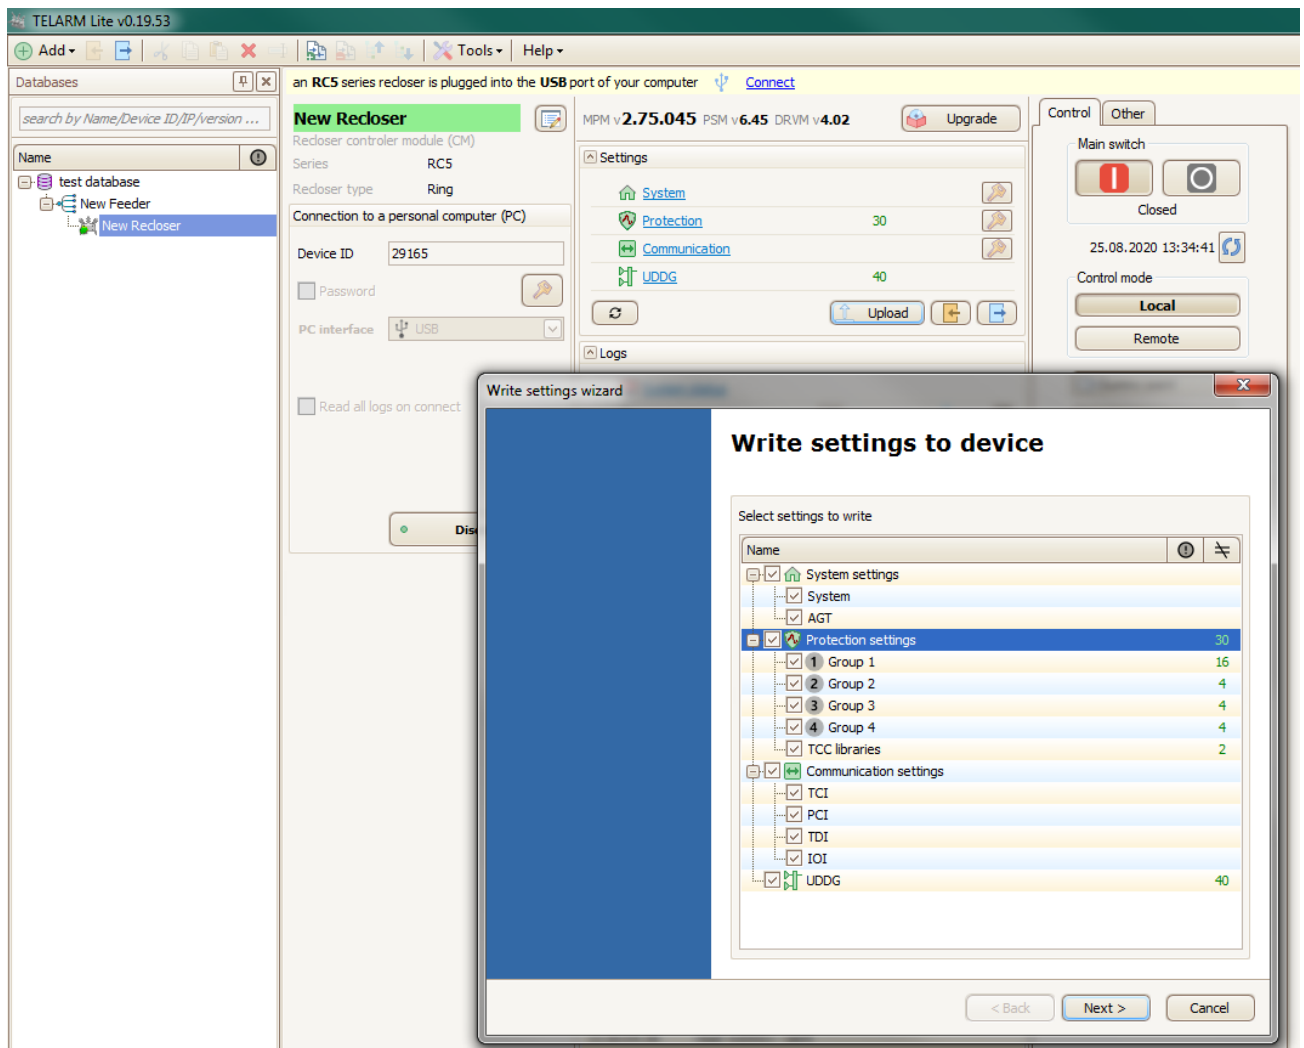

Figure 67
- 3) Select the settings do you want to upload in a pop-up wizard window (Figure 67).